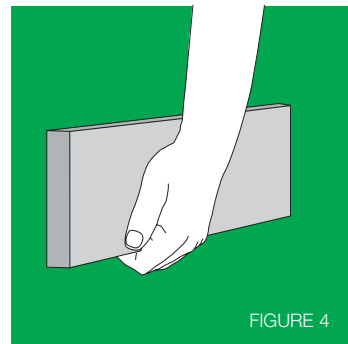

FIGURE 4
- Carry the products on edge (figure 4)